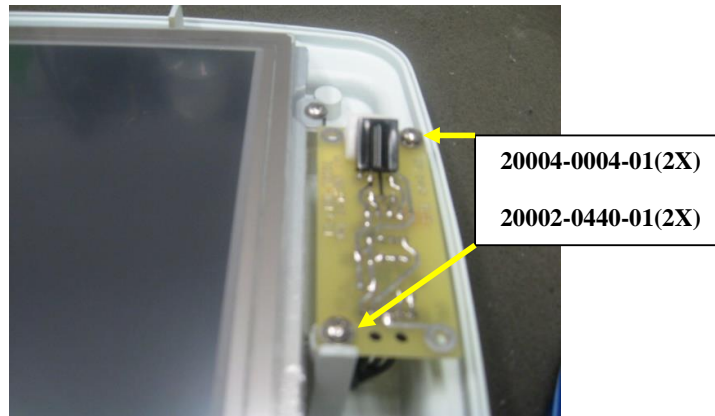

Figure 36
- 13.11. Slide the header of the IRB Cable (made in Step 10) through the opening as shown in Figure 36. Attach to JP1 of the Infrared Remote PCB. Pin 1 of the header (red side of cable) goes to pin 1 of the connector (JP2).
- 13.12. Mount the Infrared Remote PCB to the Frame using two (2) 4-40x $\frac{1}{4}$ " Pan Head Screws (20004-0004-01) and two (2) #4 Lockwashers (20002-0440-01) (see Figure 36). Torque the Screws to 5 inch pounds using a torque driver.